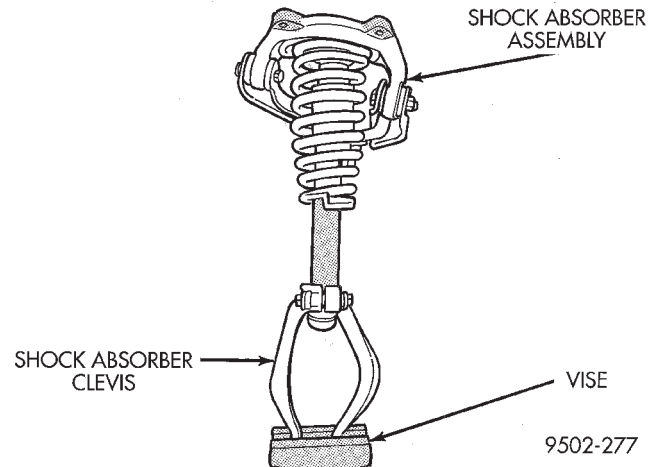

Fig. 85 Shock Absorber Correctly Mounted In Vise
(1) Install clevis bracket back on shock absorber and tighten pinch bolt. Then using the clevis bracket, clamp the shock absorber assembly in vise, with shock absorber in a vertical position (Fig. 85).
(2) Mark coil spring and shock absorber assembly right or left, according to which side of the vehicle the shock absorber was removed from, and which shock absorber the coil spring was removed from.
(1) Install clevis bracket back on replacement shock absorber and snug the pinch bolt to keep shock from turning. Then using the clevis bracket, clamp the shock absorber assembly in a vise, with shock absorber in a vertical position (Fig. 85).